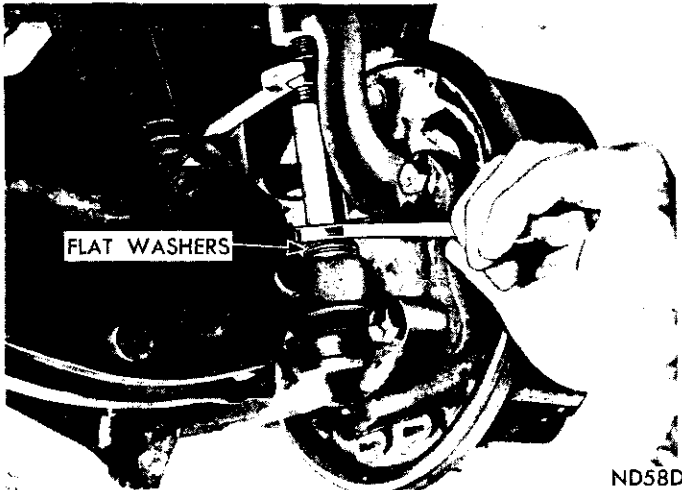

Fig. 18—Removing Upper Ball Joint Stud (Dart)
- (1) Place a jack under lower control arm as close to wheel as possible and raise vehicle until wheel clears floor.
- (2) Remove wheel and tire as an assembly.
- (3) Remove upper and lower ball joint stud using Tool C-3711. On Dart models, it may be necessary to add approximately 7/16 inch of flat washers over lower ball joint stud to allow the use of Tool C-3711 without damaging threads on lower ball joint stud. Place Tool C-3711 over stud. Turn threaded portion of tool locking it securely against the upper stud (Fig. 18).
Place Tool C-3711 over studs. Turn threaded portion of tool locking it securely against upper stud (Fig. 18). To use Tool C-3711 as outlined it will be necessary to modify it, as shown in Figure 19.